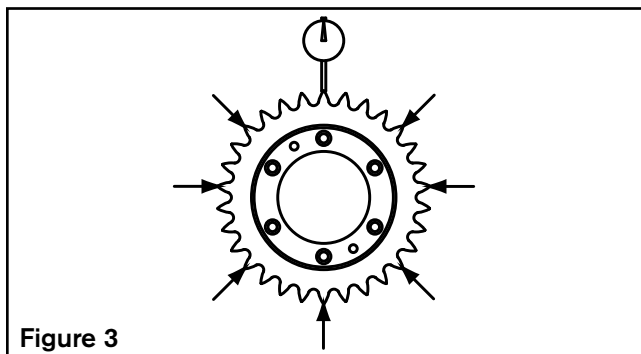

Figure 3
2. **Measure the ring gear tooth peak variance** with a dial indicator at multiple points around the ring gear to ensure that is concentric to the axis of rotation with total variance less than 0.03 mm [0.0012 in] as shown in **Figure 3**.